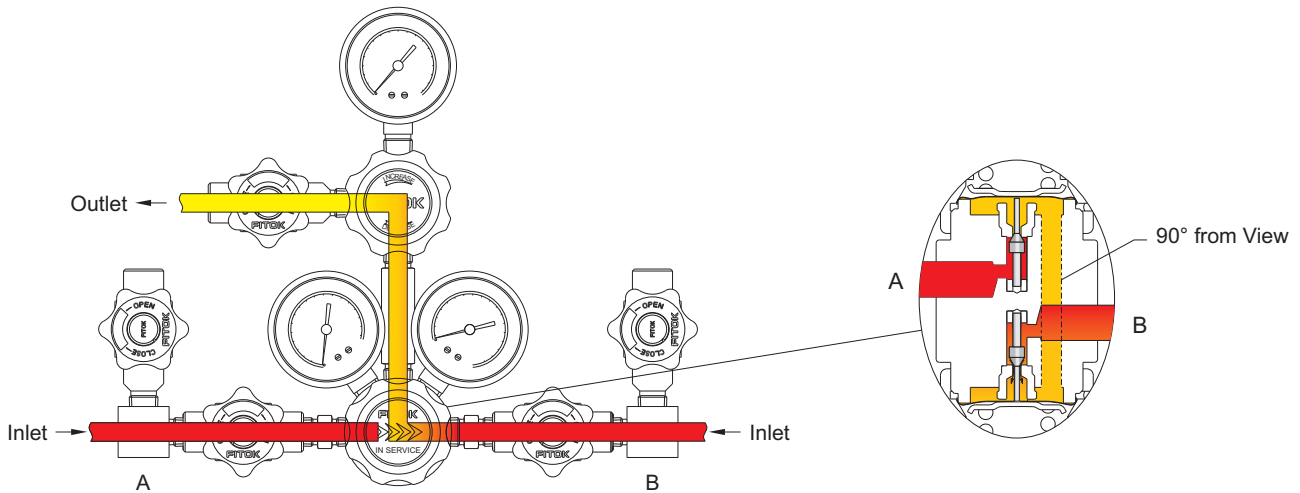
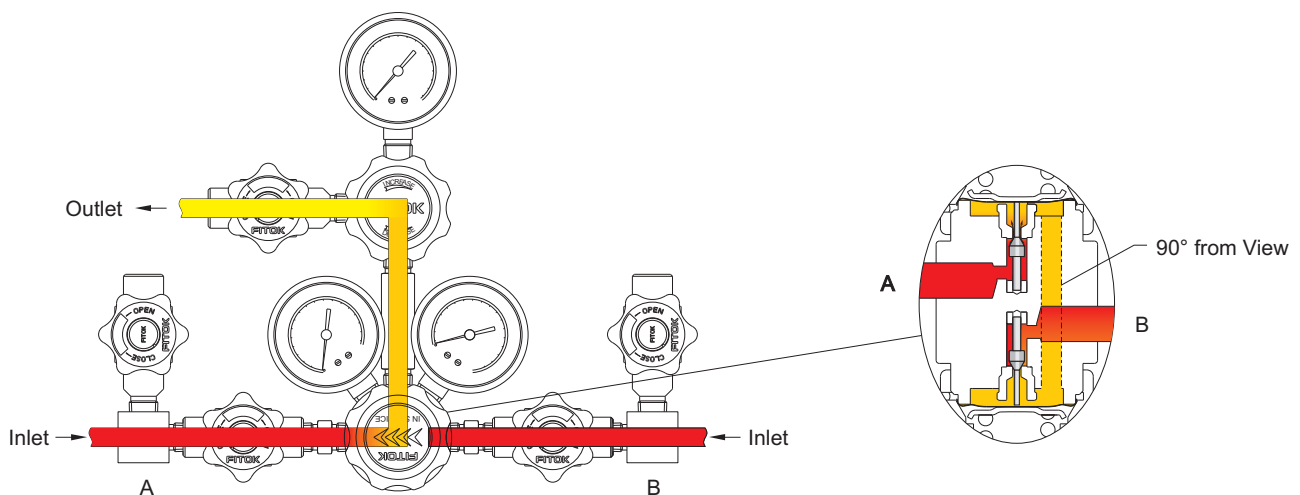

Fig. 1
Fig. 2
*Fig. 1* When the "In Service" arrow is pointing at side B, side B would be the gas source. At this time, the fixed outlet pressure of side B is higher than the set pressure of side A. Consequently, the diaphragm of side A regulator moves to enable the stem to close the regulator.
*Fig. 2* If side A is chosen as the gas source, the handle should be turned clockwise until the "IN SERVICE" arrow is pointing at side A. At this time, the set pressure of side A is higher than the fixed outlet pressure of side B. Consequently, the diaphragm of side B regulator moves to enable the stem to close the regulator.
*Gas from side A will flow back into side B. At this time, replace to a new gas source of side B, close the shutoff valve and open the vent valve to exhaust the remaining pressure, then replace to a new gas source. After the replacement, if not rotating the handle, the gas supply will return to the status as of Fig. 1. And if rotating the handle to the status as shown in Fig. 2, the gas supply will be changed to the status as of Fig. 2.*